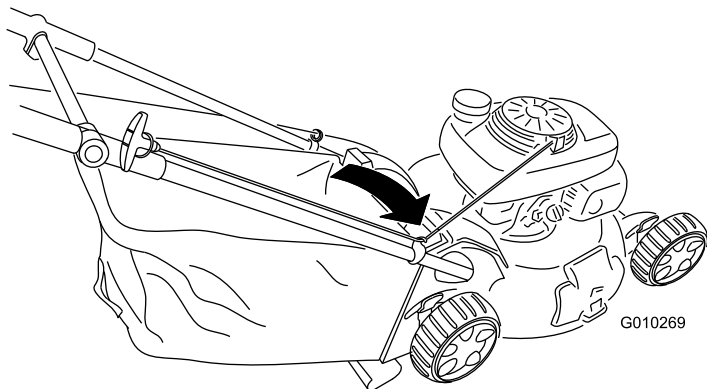

Figure 29
1. Route the starter rope around the lower-rope guide (Figure 29).